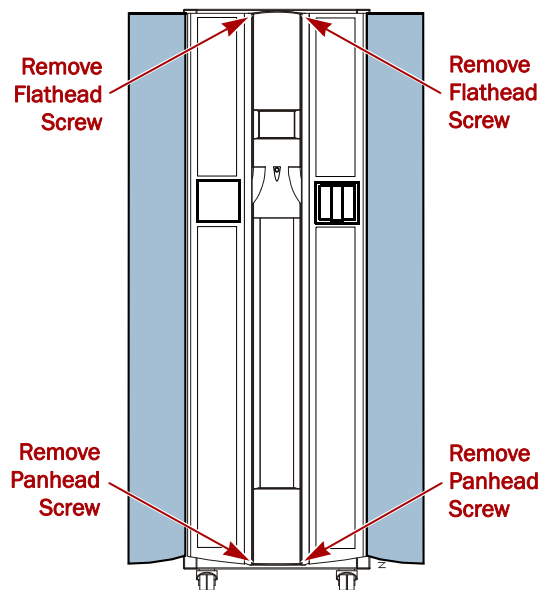

Figure 1-6: Front Panel Assembly Screw Locations
4. At the base of the FPA, remove the **panhead screws** on both sides (Figure 1-6).